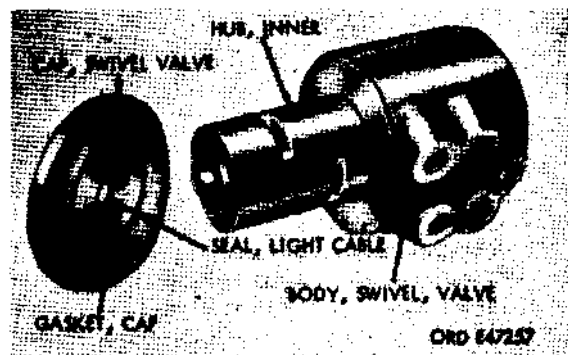

Figure 470. Cap and inner hub removed from swivel valve body
- (b) Remove eight hex-head cap screws with washer (F) and lift off swivel valve cap (fig. 470) and gasket (K). Also, remove four hex-head cap screws or washer (Q) and swivel valve guide (fig. 468) from base of swivel valve. With these parts removed, the inner hub (fig. 470) may be removed. The inner hub (L) must be removed from the top of the swivel valve, since the openings in the inner hub will cut against the body oil seal (fig. 468) in the base of the swivel valve body (N) if the hub is removed from the bottom.
- (1) Cleaning. If cleaning is required, parts may be cleaned by immersing them in clean dry-cleaning solvent or mineral spirits paint thinner. The swivel valve parts are precision parts and extra care must be practiced in handling. Metal-to-metal contact must be avoided and every precaution possible taken to protect the machined surfaces. If parts are not to be assembled immediately, apply a thin coat of oil and protect from dust and dirt.